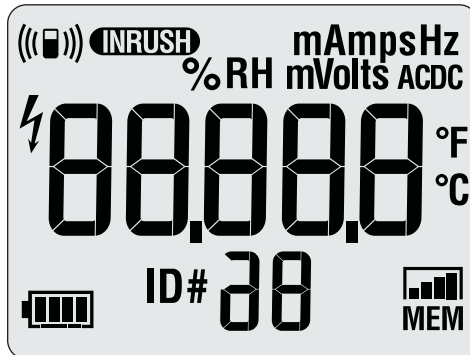

Figure 1. All Segments of the Display
2. Push **ⓘ** while you keep **LOG** pushed until all of the display segments are shown. See Figure 1.